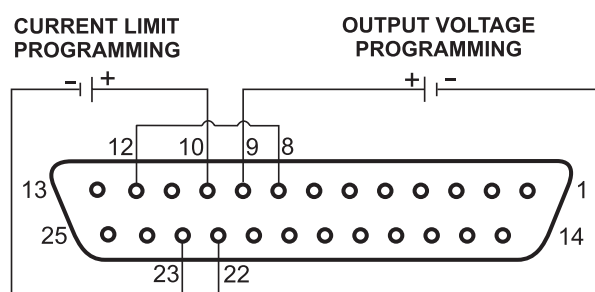

Fig.5-1: External voltage programming connection
2. Perform the connection as shown in Figure 5-1 and the settings shown in Tables 5-3 and 5-4.
3. Connect the external power supply to the mating plug of J1 as shown in Fig.5-1. Observe correct polarity for the external supply.